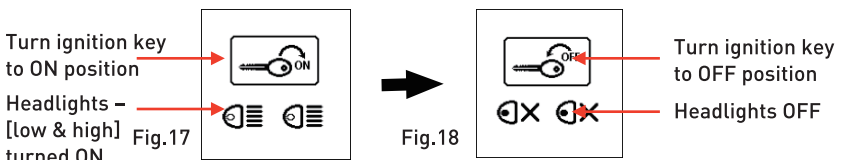

Fig.18
6. If the tester detected that the battery has surface charge it will prompt the user to turn the ignition key to ON and switch on the headlights (Fig.17) to discharge the battery until it has reached the next display that shows turn ignition OFF and headlights OFF (Fig.18) as display shown below and press to continue.